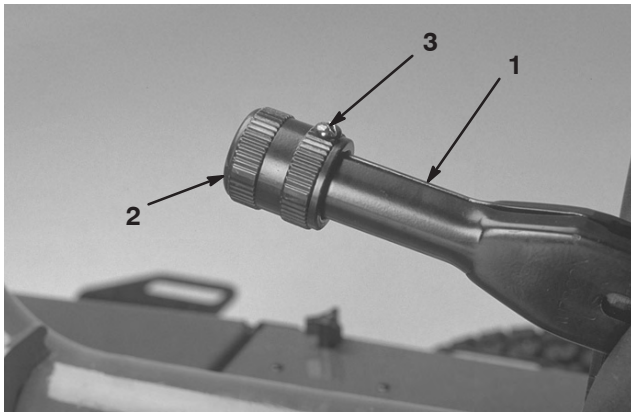

Figure 51
1. Loosen the set screw securing the knob to the parking brake lever (Fig. 51).